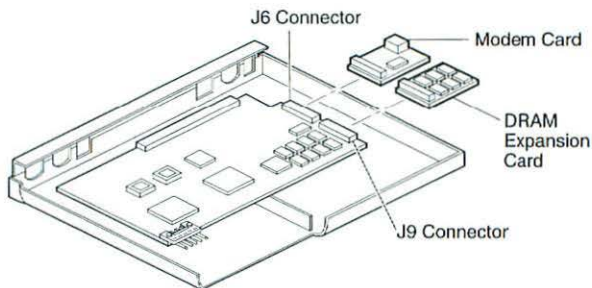

Figure 2 Modem and Memory Cards
5. Holding the modem card by the edges, connect it to the logic board (Figure 2).
3. Holding the DRAM expansion card by the edges, connect the card to the logic board (Figure 2).